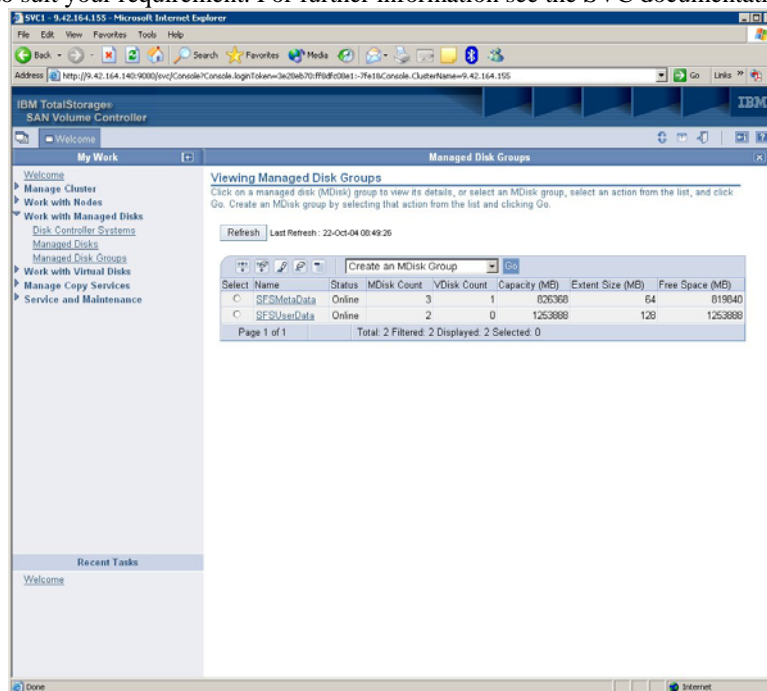

Figure 7. – Create Mdisk group
4. Once you have selected the SVC cluster that you want to configure for remote boot, proceed to creating Mdisk groups and Vdisks. To do this, click on <**Work with Managed Disks**> and select <**Create Mdisk Group**>, as shown in the figure 7 below. Follow the wizard to create a Mdisk group to suit your requirement. For further information see the SVC documentation.